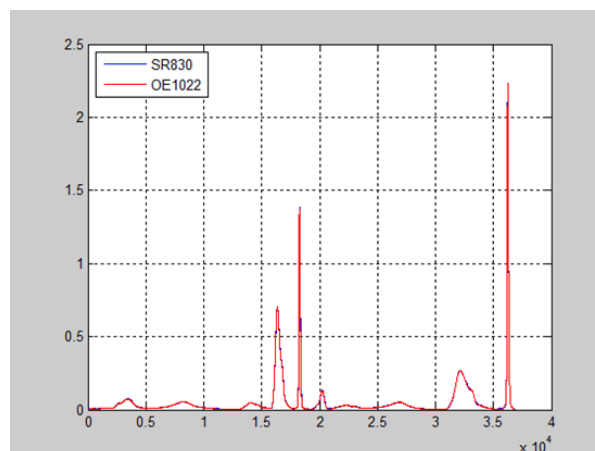

Fig.102 The Contrast Spectrum Chart between SR830 and OE2041
5. Change the OE2041 to the SR830. Repeat the steps above to run the same experiment. Then you will get another spectral image as is shown in Fig.102. You can see that these two images are almost the same.